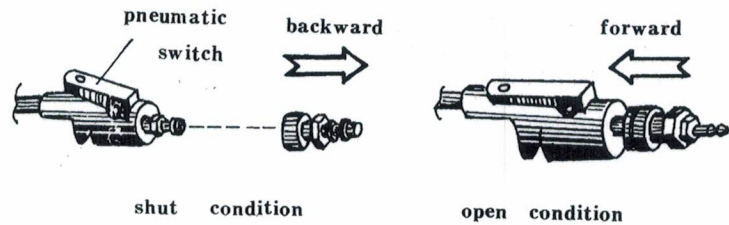

Fig. 3 Connecting method of quick-change joint
2. Connect the quick-change joint (see Fig.3)
3. Press down the pneumatic switch (see Fig.3), make the jack to extend till the desired position.